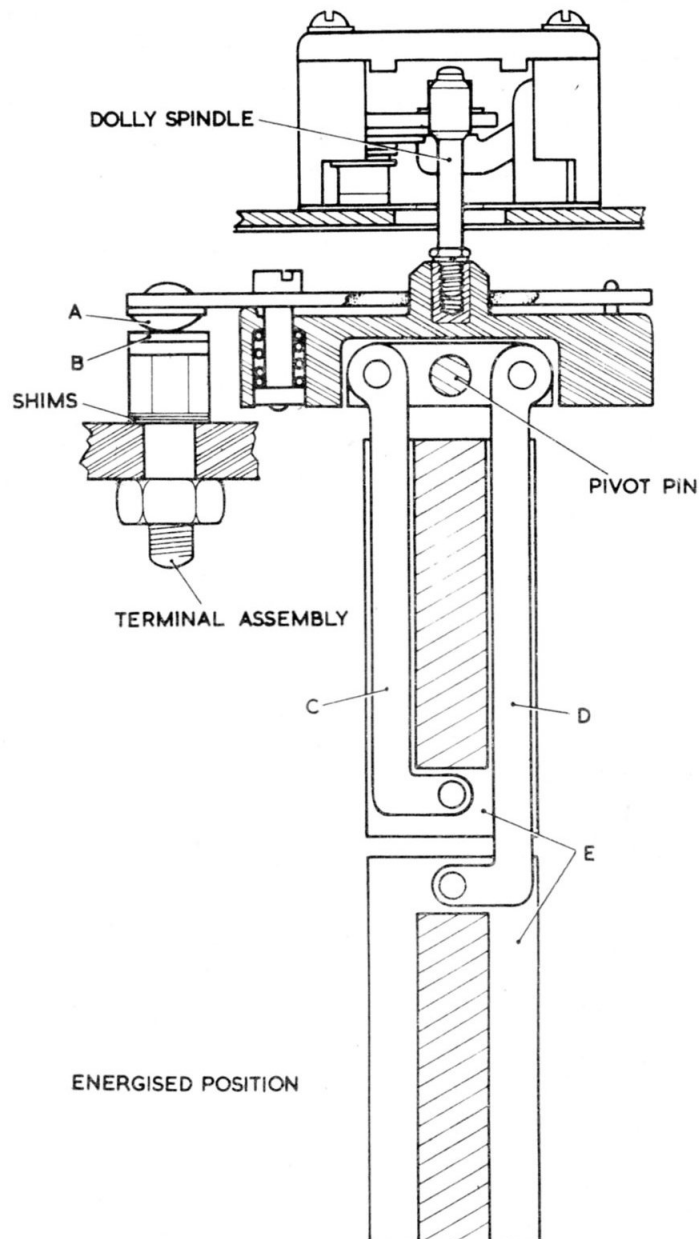

Fig. 2. Diagram of operating mechanism
contained in a soft iron cylinder assembled in two halves and secured to the body moulding by two external cheesehead screws. The rear bracket is also secured to the body by these two screws. The moving contact plate is attached, by two spring loaded screws, to an insulated contact moulding. These screws are fastened to and operated by, the solenoid core assembly and the contacts are mounted on a pivoted block as shown in fig. 2. The pivot pin is supported by two duralumin pillars mounted on a flat plate which is held by four screws to the end of the soft iron cylinder enclosing the coil.
6. When the coil is energized, the two plungers "E" (fig. 2) forming the solenoid core, move towards each other and this movement is imparted to the contacts through the duralumin links, "C" and "D", to the moving contact plate "A" on the pivoted block which pivots on the pin and closes the contacts "A" and "B". The spring on each contact (only one shown in fig. 2) allows the contact block to over travel after the contacts have made and thus exerts pressure on the contacts.
8. The two coiled torsion springs fitted on the pivot pin (not shown in fig. 2) return the contacts to the open position when the solenoid is de-energized.